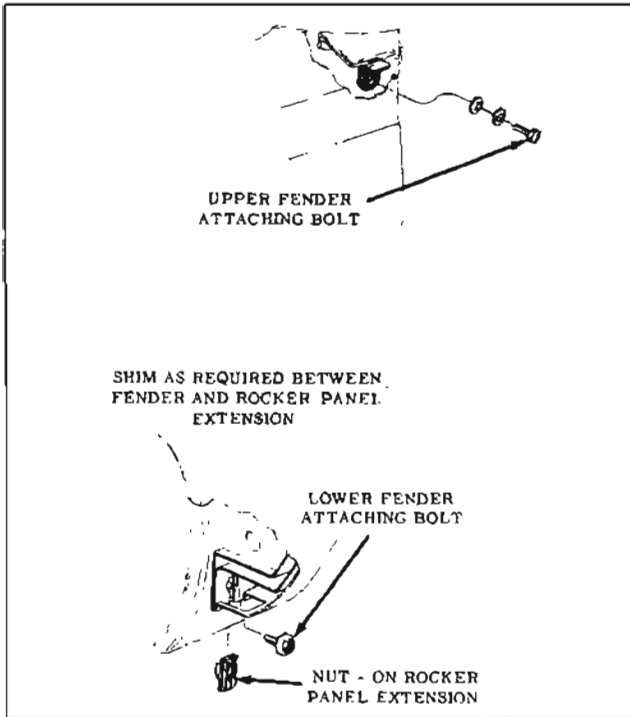

Fig. 12-107 Fender Rear Attachment
6. Remove fender to rocker panel extension bolt, (and shims if used), and upper fender to cowl bolt and washer. (Fig. 12-107)
tapping, then check alignment. It may be necessary to use shims as shown in Fig. 12-107.